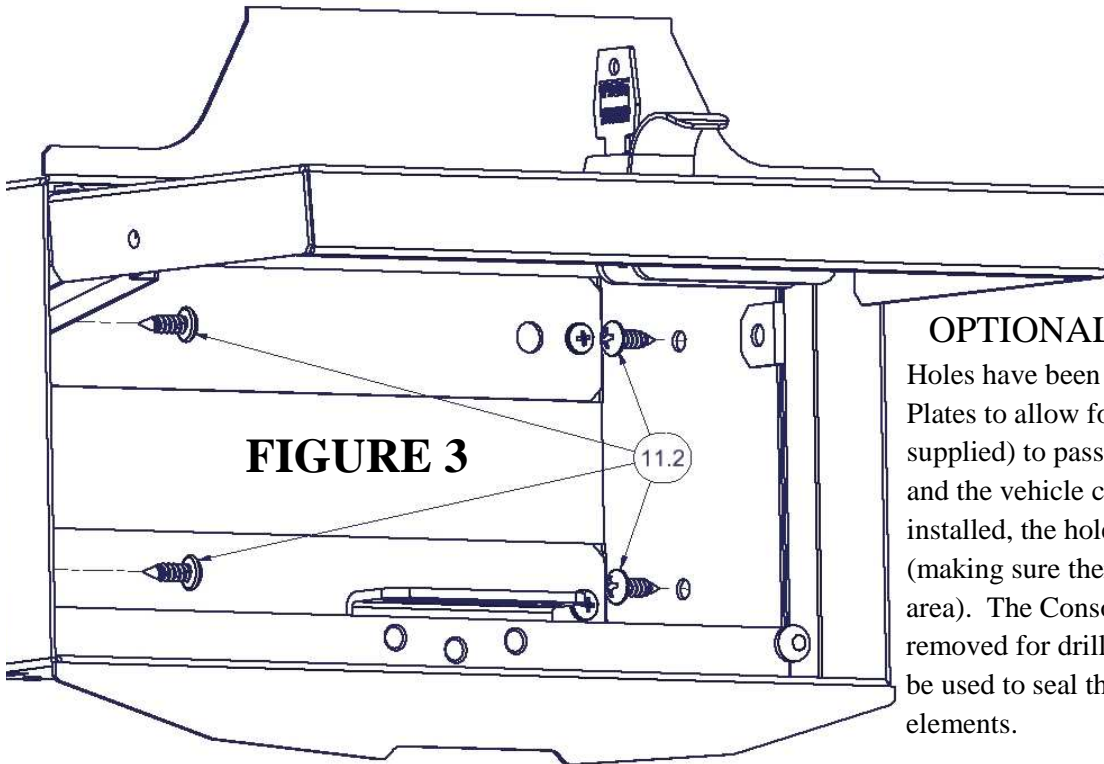

FIGURE 3
6. Replace the Console Insert into position and install the (4) #11.2 screws that secure it in place(Figure 3).